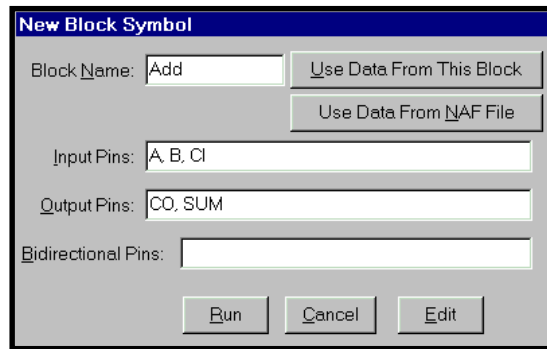

Figure 3-39. New Block Symbol Dialog Box
3. Type a Block name, and input and output pin names in the relevant fields of the New Block Symbol dialog box. The first character of each pin name must be alphabetic. Separate pin names with a comma (Figure 3-39).